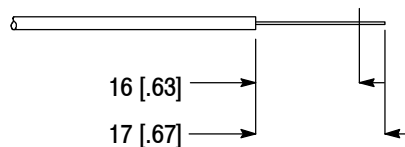

Figure 2
2. Refer to the "OPTIMATE 2.5mm Bayonet (Polymer Composite)" strip length template (from the cable preparation template kit) or refer to Figure 2, Detail A, and using the cable stripper, strip the jacket to the dimension shown. Using the shears, trim the strength members to dimension shown. Using the fiber stripper, strip the buffer, then the coating to the dimension shown.
2. Strip the buffer and/or coating so that 16-17 mm [.630-.670 in.] of bare-glass is exposed, refer to the strip template, or Figure 2, Detail B.